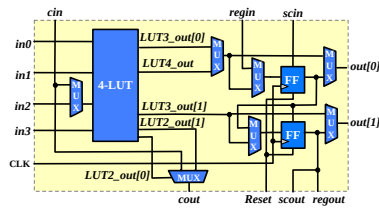

Fig. 4.5: Detailed schematic of a logic element
As shown in Fig. 4.5, each Logic Element (LE) consists of
- two D-type Flip-Flops (FF)